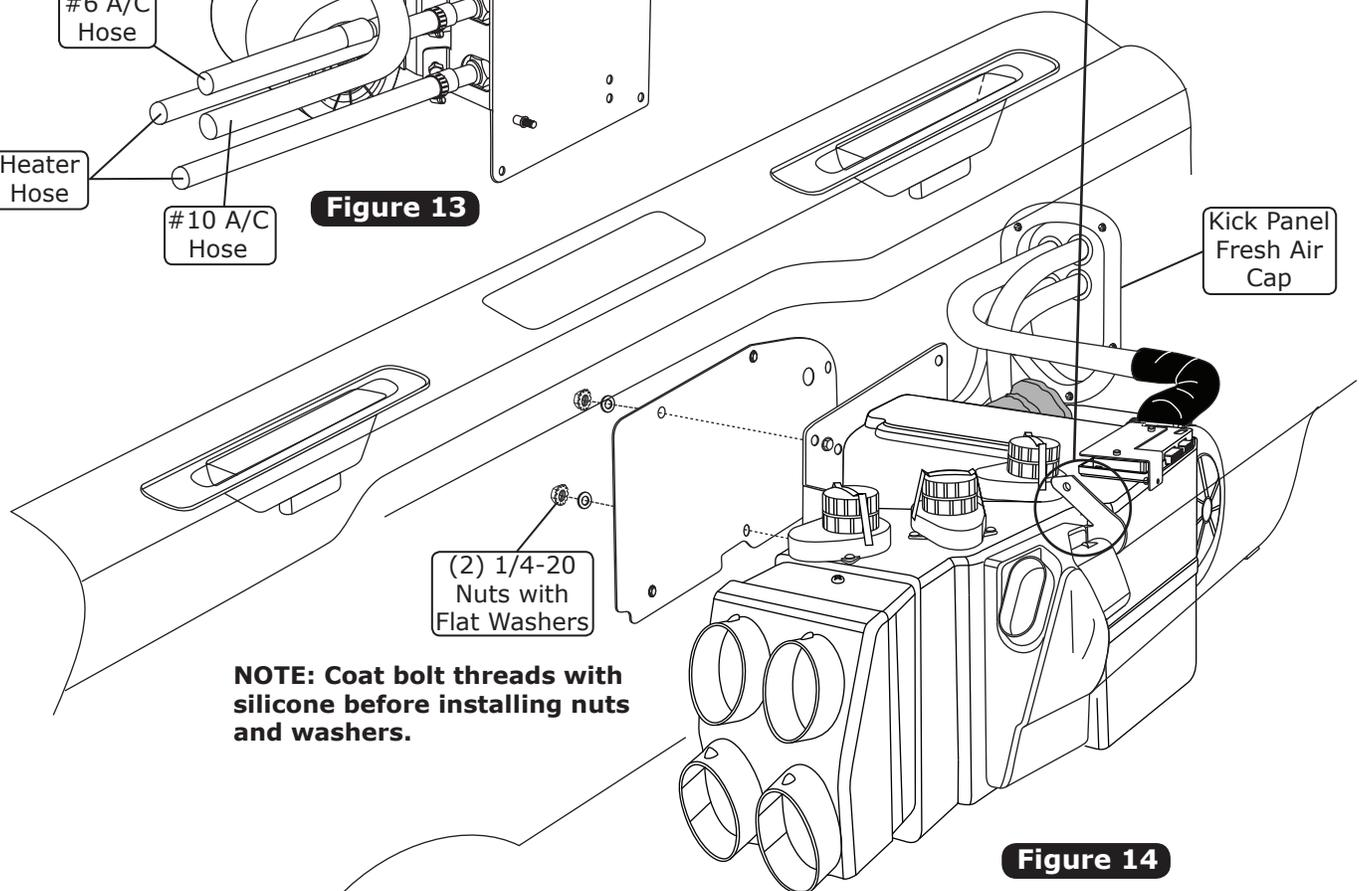

Figure 14
1. Lift evaporator unit up under the dashboard. Secure loosely to firewall from the engine compartment side using (2) 1/4-20 nuts and flat washers (See Figure 14, below). **NOTE: To ensure proper drainage, it is very important that the evaporator is level, both left-right and fore-aft. Check for level on the flat portions of the case around the drain.**